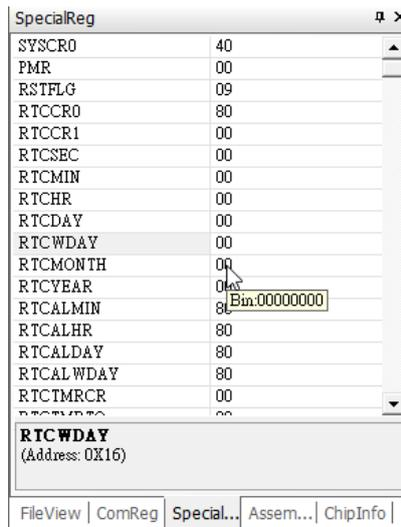

Figure 4.4 Special Registers
**SpecialReg window**– in the special register window, the hexadecimal value of the register content is displayed after the special register name, when the mouse moves over the value, the binary result will be displayed, which is more convenient For observations, see Figure 4.4. At the same time, the address and a brief description of the register will be displayed at the bottom of the window. You can directly modify the value in the special register window, or click "... " in the value box to view the function description of the corresponding bit of the special register, and then configure the register according to the function.